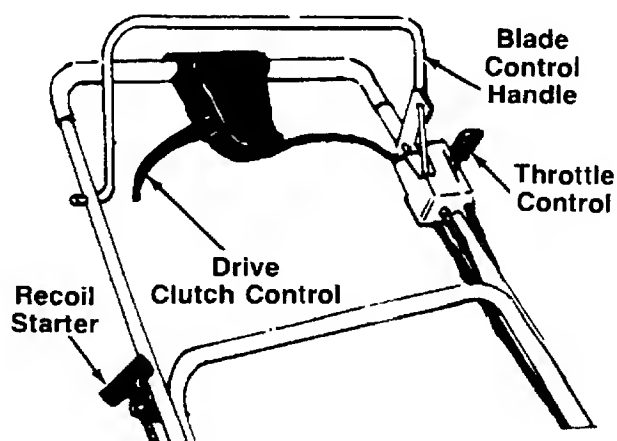

FIGURE 14.
The throttle is located on the left side of handle. It controls engine speed. See figure 14.
To engage the blade, pull the side release lever away from the unit. See figure 14. Pull the blade brake/clutch control handle against the upper handle. Release side lever.
Squeezing the drive clutch control engages the drive mechanism to the rear wheels. Releasing the clutch control stops the rear wheels from driving. Release the drive clutch control to slow down when negotiating an obstacle, making a turn or stopping. See figure 14.
2. To engage the blade, pull the side release lever away from the unit. Pull the blade brake/clutch control handle down against the upper handle. Release the side lever. See figure 14.